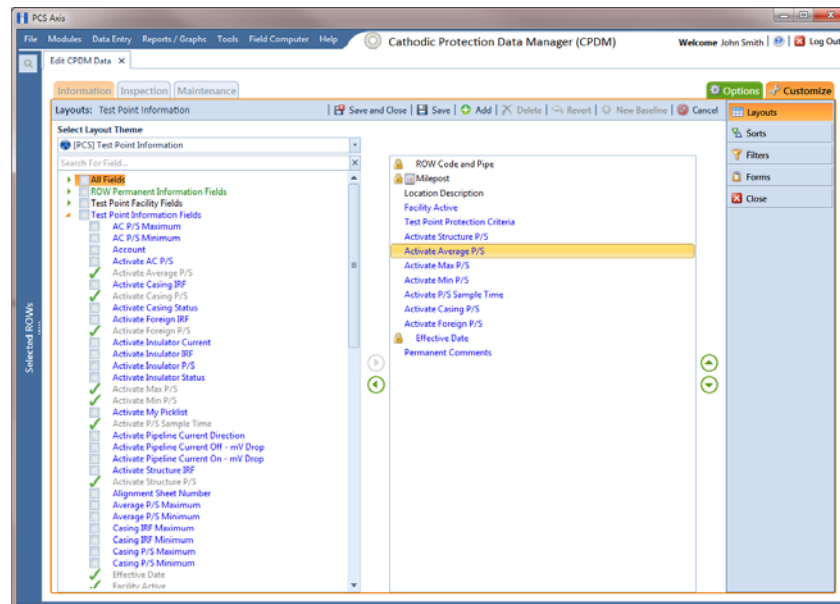

Figure 7-13. Layouts
- 4 Click the **Customize** tab  to open the *Layouts* page (Figure 7-13, page 295).